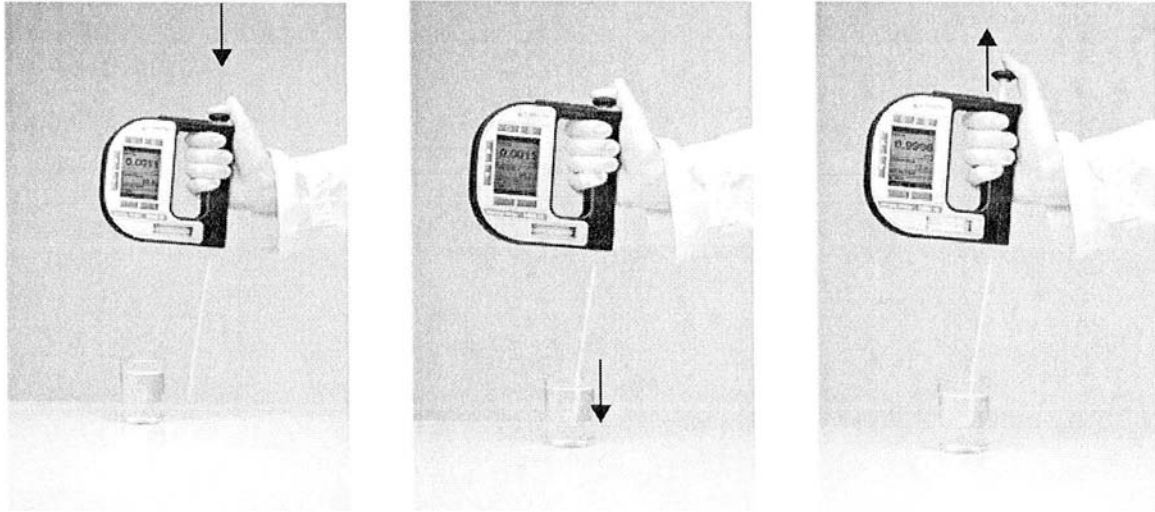

Fig. 9 – 1 Filling sample using the filling tube
1. Press down the pump lever as far as it will go (see Fig. 9 – 1).